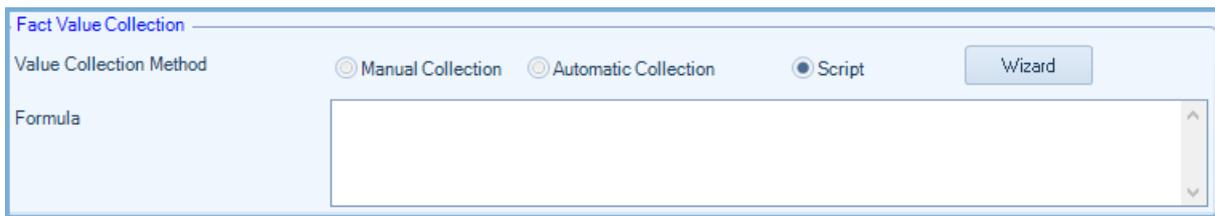

Fig. 22. Selecting Script method
- **Fact Value Collection** section defines the parameters for getting the final values of the KPI. Select **Script** to configure the calculation of the KPI (Fig. 22).